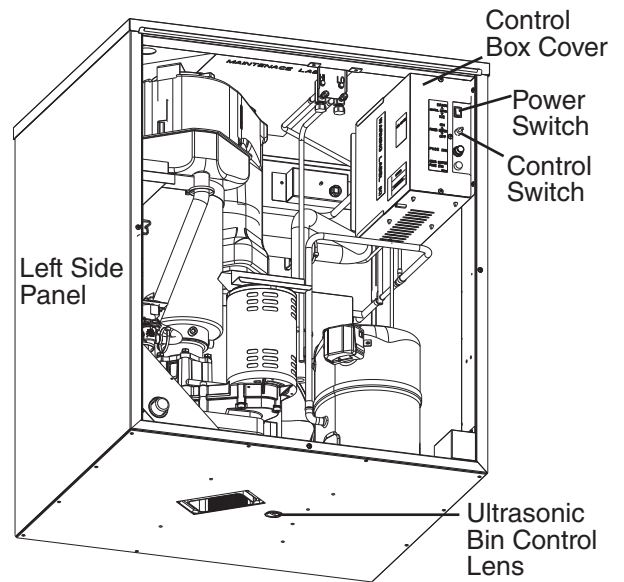
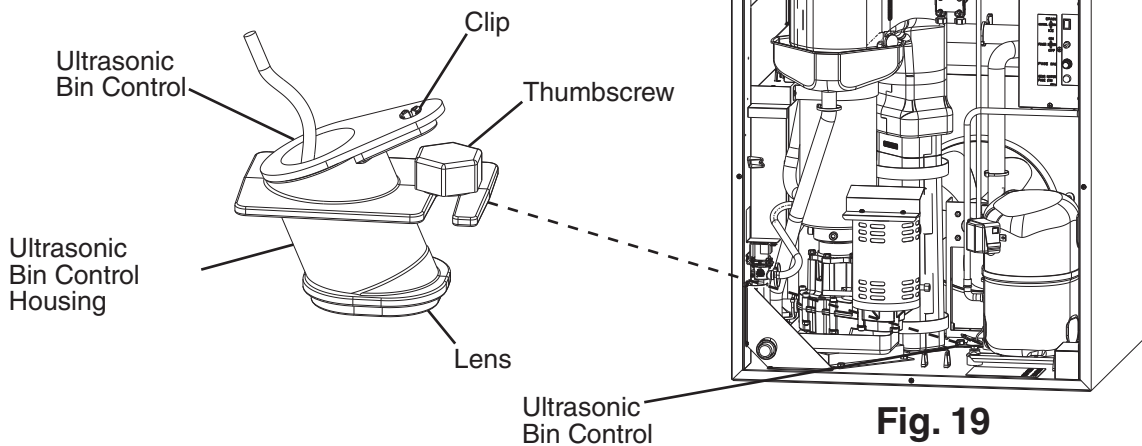

Fig. 18
Fig. 19
8) "GM" LED and "COMP" LED are on. Place an object 5" to 7" (127 to 178 mm) away from the bin control lens at the bottom of the icemaker. See Fig. 18. If the bottom of the icemaker is not accessible in your application, remove the thumbscrew securing the bin control sensor housing to the base, then remove the bin control sensor housing. See Fig. 19.